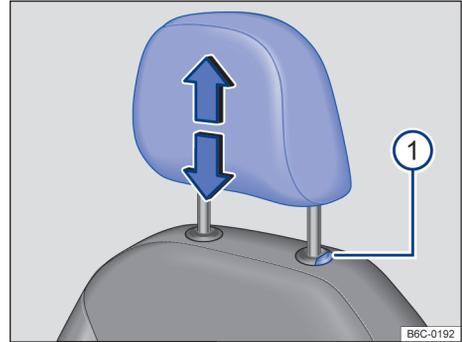

Fig. 67 Front seat head restraint: removal.
- Press and hold → Fig. 67 ① to remove the head rest.
- Push the head restraint fully downward while holding the → Fig. 67 ① button pressed.